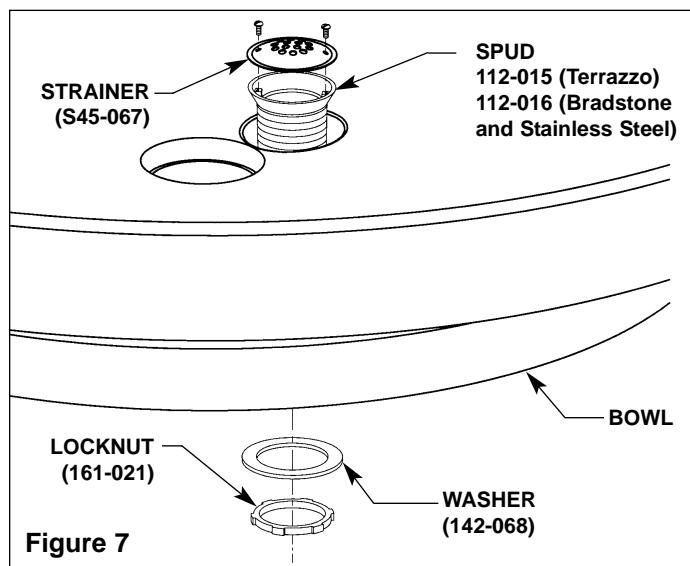

Figure 7
4. Screw the spud into the drain with the lock nut and washer between the drain and bowl (see Figure 7).
5. Tighten the spud and locknut against the bowl (see Figure 7).